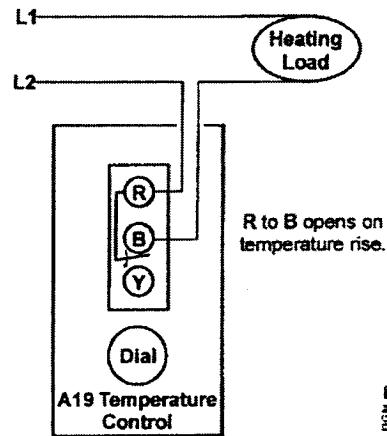
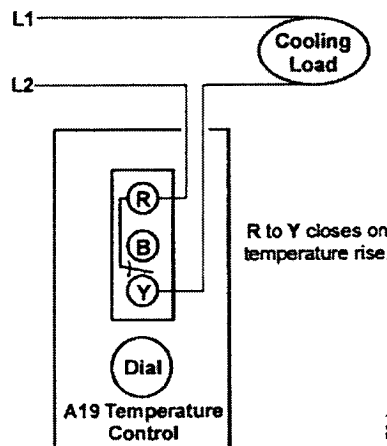
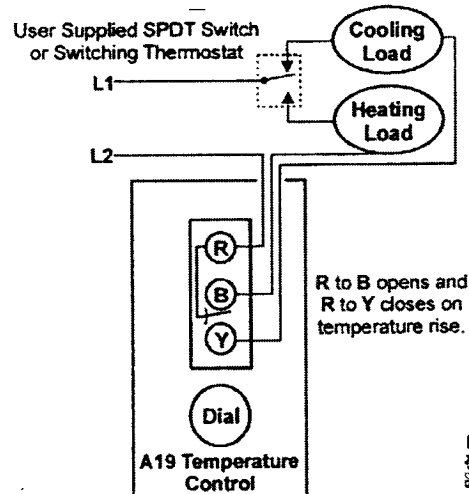

Figure 2: Typical Wiring for Heating Applications
Figure 3: Typical Wiring for Cooling Applications
Figure 4: Typical Wiring for Combination Heating and Cooling Applications
5. Make wiring connections to the screw terminals. See Figure 2, Figure 3, and Figure 4.
When the temperature at the sensing element rises to the setpoint (dial setting), the switch between R and Y closes and the switch between R and B opens on SPDT models. See Figure 2, Figure 3, and Figure 4.